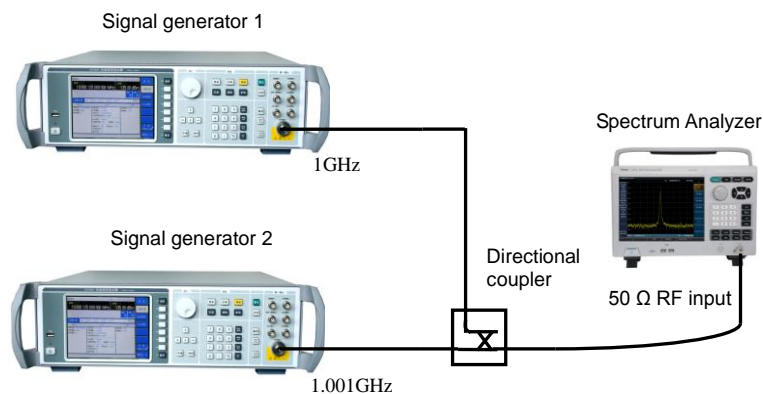

Fig 4-5 Connection of third-order intermodulation distortion measurement system
a) Connect the instrument under test (as shown in Fig 4-5) to the spectrum analyzer: